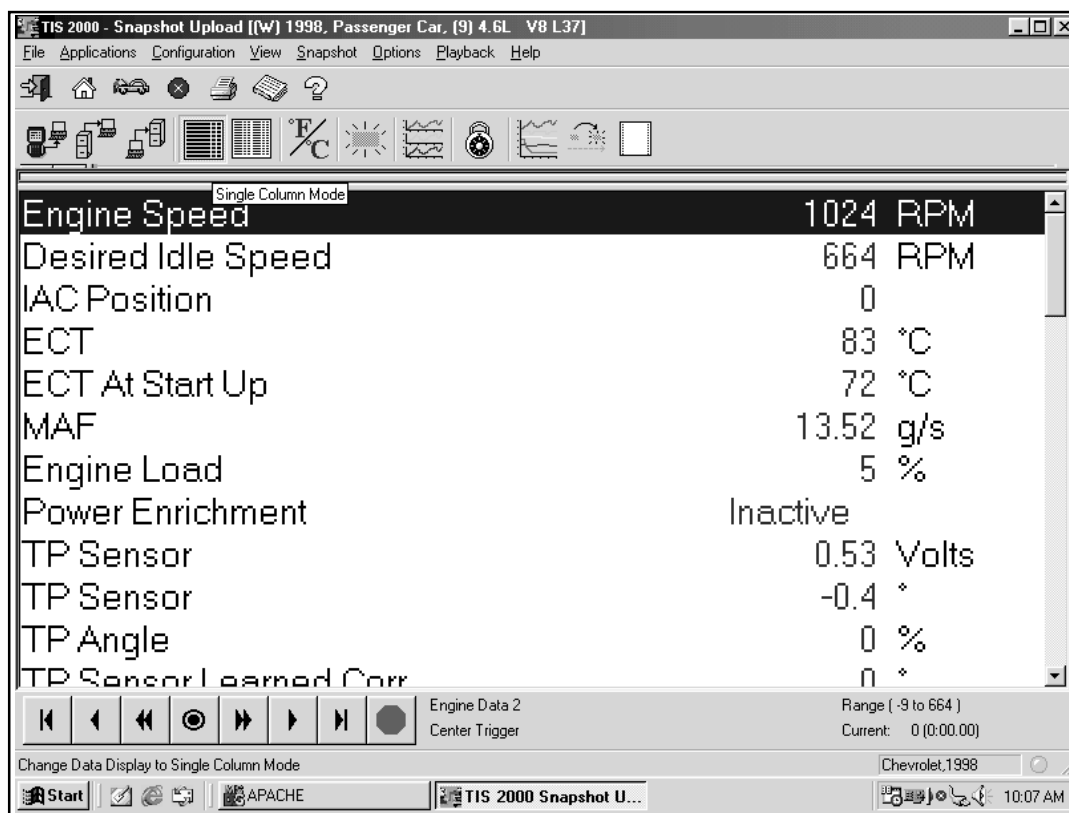

Figure I-66, Single-Column Display
- **Single-Column** (see Figure I-66) lists data parameters in a single column that uses larger type, which makes the data easier to read at a distance.